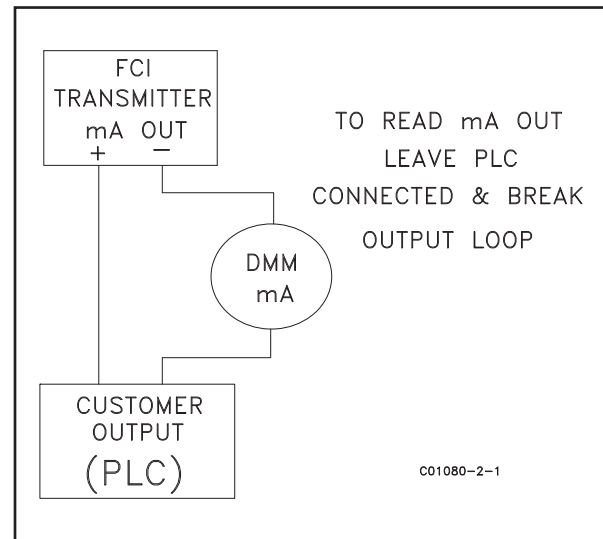

Figure 21
- B. To read 4 to 20 mA current, disconnect the output loop and connect the DMM in series (figure 21). Configure the DMM to measure milliamps.